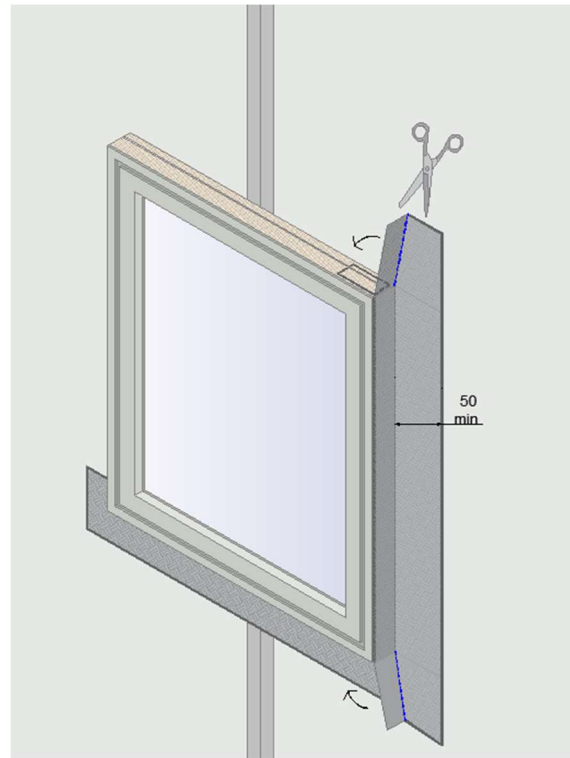

Figure 12
- Cut the un-bonded section to form a flap and mark the position on the frame (Figure 12).
- Apply a continuous ribbon of adhesive 15 mm inside the line (Figure 12).